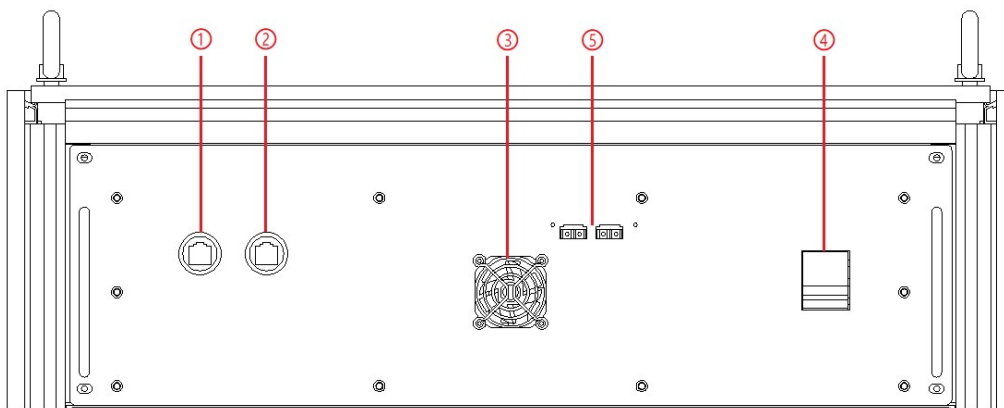

Figure 1-22 Front panel of control module
The master-slave interface is located on the front panel of the control module, as shown in Figure 1-22⑤.